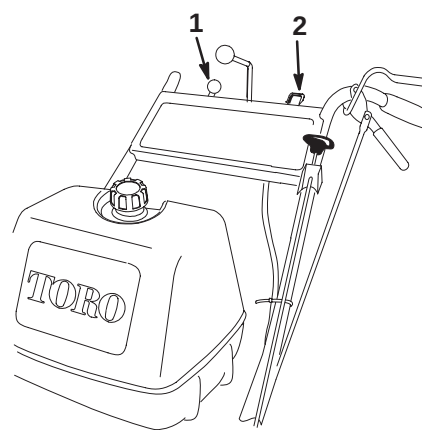

Figure 20
1. Move the throttle lever to "SLOW" (Fig. 20).
5. Turn the ignition key to "OFF" (Fig. 20).